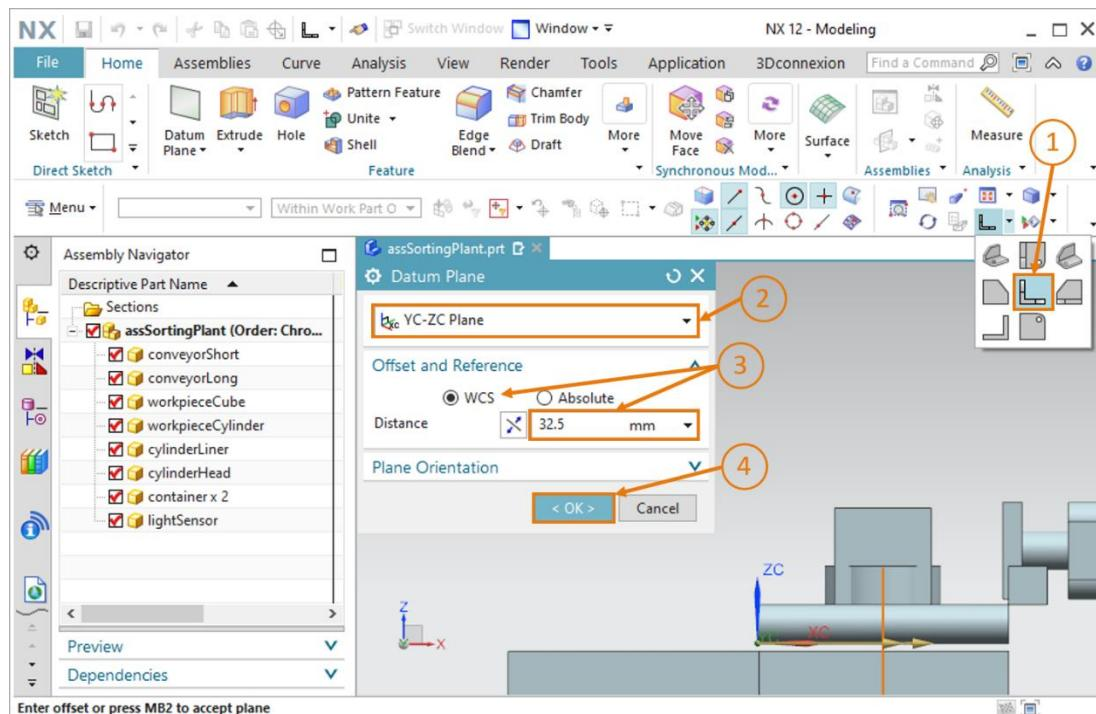

Figure 70: Mirroring the light sensor – Setting the datum plane
- You now see the "Datum Plane" command window. First, switch from the trimetric view to the "Front" view (see Figure 70, step 1). Specify the "YC-ZC Plane" as the datum plane (see Figure 70, step 2). In the "Offset and Reference" submenu, define "WCS" as the input method with a defined distance of 32.5 mm (see Figure 70, step 3). This corresponds to half the width of the conveyor belts. Confirm your selection by clicking "OK" (see Figure 70, step 4).